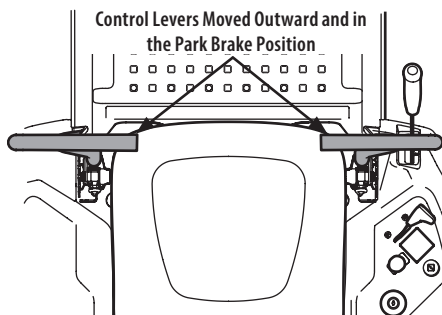

Figure 20
- Operator should be sitting in the tractor seat with the lapbar drive control levers fully out and in the park brake position (Figure 20). Refer to Practice Operation (Initial use) for further instructions.